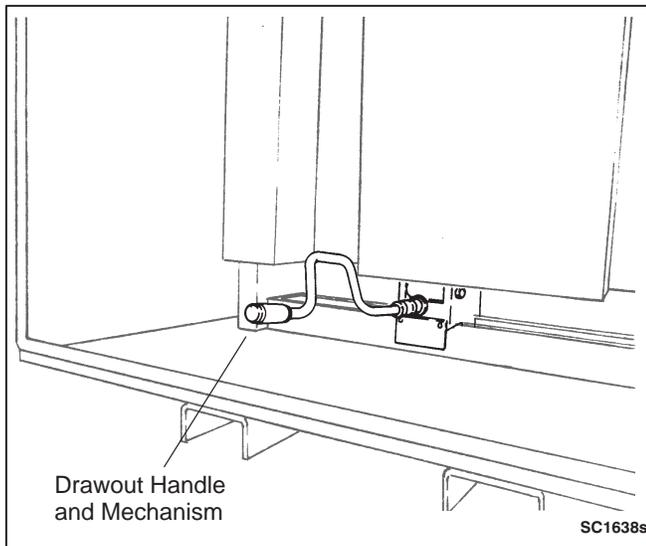

FIGURE 3-5. 1200 AMP DRAWOUT MECHANISM
4. Locate the drawout cranking handle and insert it into cranking mechanism. While pressing in on the cranking handle, rotate the drawout handle (Figures 3-5 and 3-6) counterclockwise to move the transfer switch out.